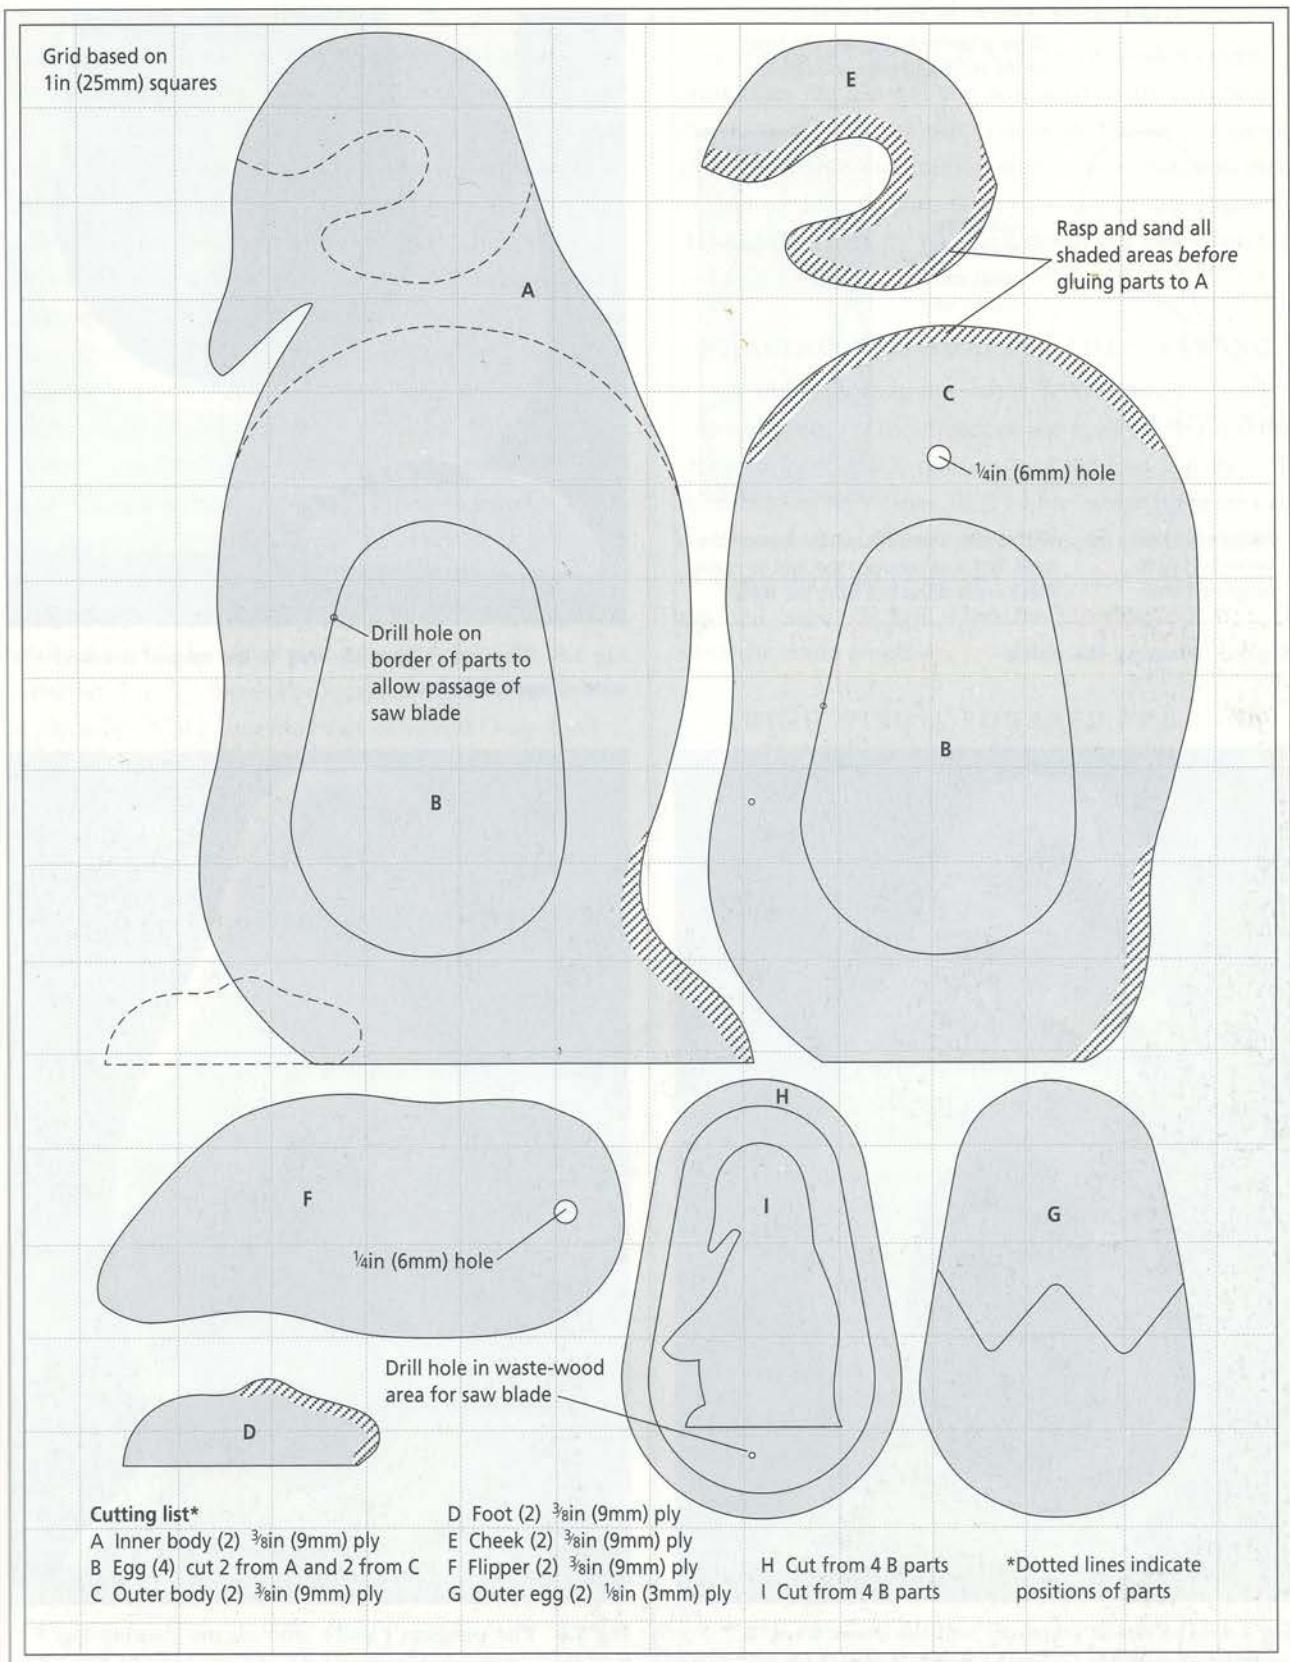
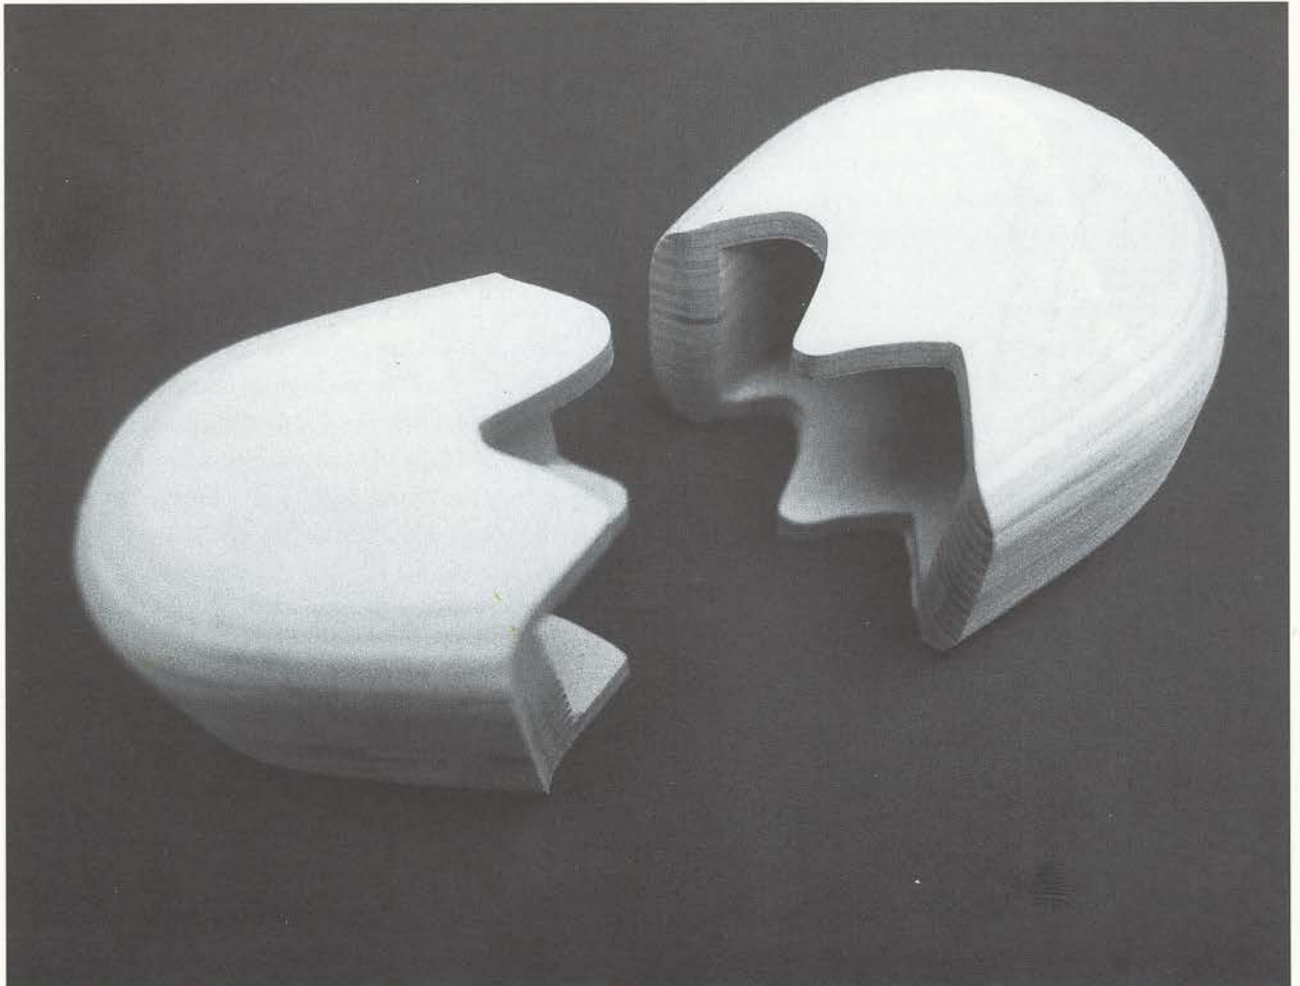

Fig 3.2 Cutting list and assembly guide.
Fig 3.8 Use a softened zigzagging line for the crack line.
Trace parts A, B, C, D, E and F from Fig 3.2 and transfer the shapes onto the $\frac{3}{8}$ in (9mm) ply. Trace part G on the $\frac{1}{8}$ in (3mm) ply. You will be needing two of each of these parts, so be sure to trace each shape onto the ply twice. Note that, as part B comes from the interior of A and C, you will have four parts labelled B. If you wish, you may label each part with the appropriate letter.
With either a coping saw or a fret saw, cut out all the shapes except for parts B from the plywood. To cut out parts B from parts A and C you must first drill a small hole just on the line describing part B (see Fig 3.2 for
Take parts C, D and E. All of these parts will be affixed to the A assembly and will form the outermost body of the penguin. Notice in Figs 3.2, 3.4 and 3.5 the diagonal lines. These lines indicate areas that must be shaped before assembly. With a rasp, shape these areas. Use Fig 3.6 as a guide to how the finished shapes should look. Smooth the marks left by the rasp with sandpaper. First use coarse, then medium grade, then fine. These parts are shaped at this stage as it would be difficult to reach them with a rasp once they were fixed to the A assembly.
Notice in Fig 3.2 the diagonal shading on the tail area of shape A. Shape this area with a rasp and sandpaper just as you did with the other parts. It should be somewhat rounded, as in Fig 3.6.
When you have finished sanding the tail area, glue and pin one C, D and E part to each side of the A assembly. Fig 3.2 shows the location of the parts on the A assembly. Make sure the bases of C and D are level with the base of the A assembly. Align the edges of the shapes as best you can, but don't worry if they don't match up perfectly. You will remove any small irregularities on the outline of the body at a later stage after the glue has dried. Set aside until the glue has dried completely.
When the penguin's body (consisting of the glued and pinned parts A, C, D and E) has dried, mark from Fig 3.2 the position for the $\frac{1}{4}$ in (6mm) hole. Drill the hole.
Gather together the four B parts and the two G parts. Note from Fig 3.2 that you will need to drill a hole in the waste area of each part B to allow for the passage of a saw blade into the interior of the shape. You will then be cutting out two parts from each B part: the eggshell (H) and the chick (I). You will then have four H parts and four I parts.
If you will be cutting the shapes with hand tools, you will need to trace the shapes of the eggshell (H) and the chick (I) (see Fig 3.2) onto each of the four B parts. After tracing the shapes, drill a hole in the waste area of each part C. Pass the saw blade through the hole and re-attach the blade to the saw frame. Saw out the eggshell shape (H) first. Then saw out the chick (I) from the waste wood.
Draw a zigzagging line on the surface of the egg (see Fig 3.2). Avoid making a line with sharp points. With a fret saw, saw the egg into two parts along the line (see Fig 3.8). Sand the inside of the egg and the sawn edges of the line so that there are no sharp corners.
Drill a $\frac{1}{4}$ in (6mm) hole in each of the two flippers (F) at the position marked in Fig 3.2. Round off the edges of the flippers (F) with the rasp so that there are no sharp edges or corners. Remove the rasp marks by sanding with coarse sandpaper. Then sand the whole of the flippers with medium paper. If there are any holes